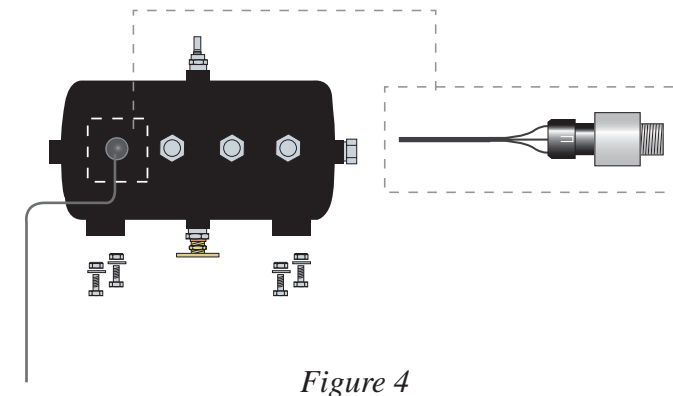

Figure 4
3. Connect the transducer with the three black wires to the open port in the front of the air tank as shown in Figure 4.